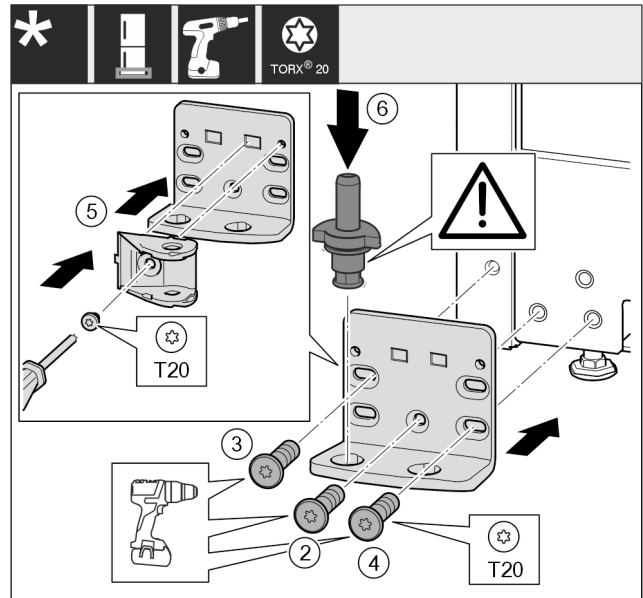

Fig. 47 *
- Place the swap bearing block on the other side and use a screwdriver to screw it on. Start with the screw Fig. 47 (2) at the bottom in the middle.*
- Tighten screw Fig. 47 (3) and screw Fig. 47 (4).*
- Turn the closing damper connection Fig. 47 (5) by 180°. Use screwdriver to screw it onto the other side of the swap bearing block.*
- Insert the bearing bolt Fig. 47 (6) completely. Ensure that the latching cam is pointing towards the rear.*